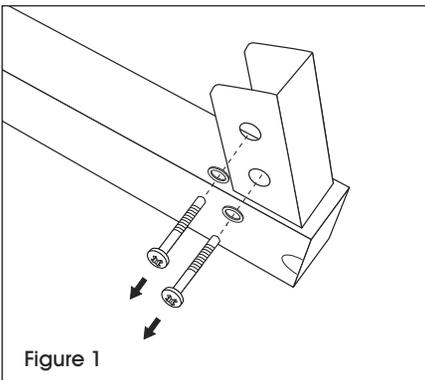

Figure 1
1. Remove the included washers and bolts from the frames, using the included 1/4" Allen wrench. (See Figure 1)